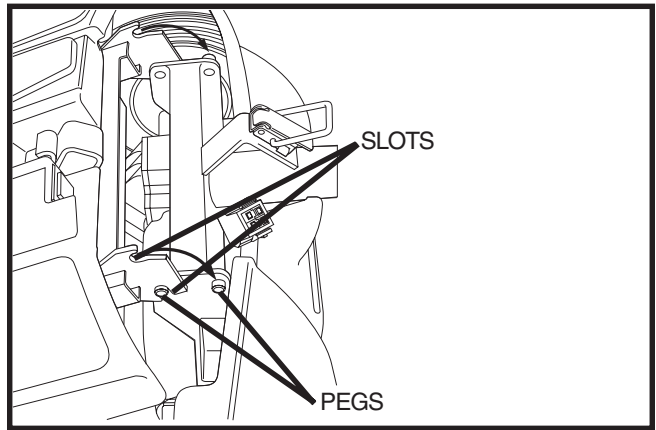

Figure 24. Frame Lockup
2. Lift the front section up until the lower pegs are no longer in the slots. See figure 24.
2. Use the tiller handle to lift the front section as you align the lower slots of the front section with the corresponding pegs on the front of the rear section. See figure 24.